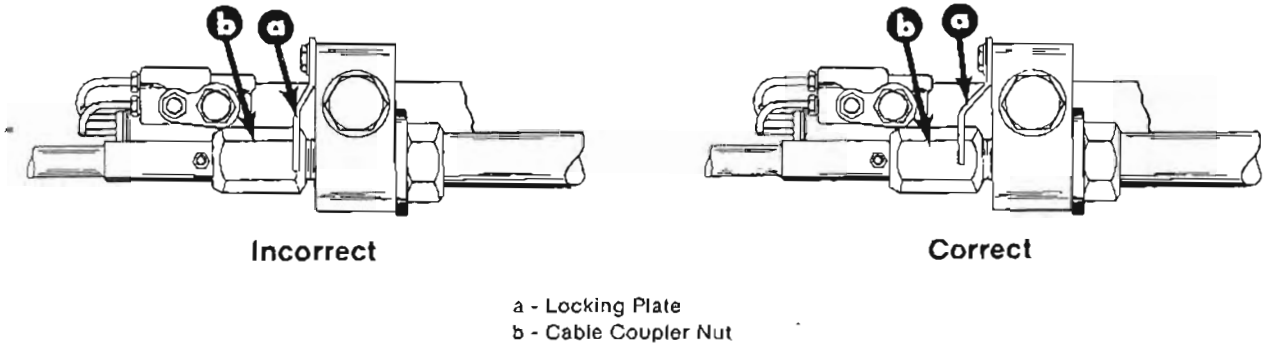

Figure 5. Locking Plate Installation
- When installing locking plate, make sure that plate engages flats on coupler nut. (Figure 5) If not, bend locking plate to obtain proper engagement.